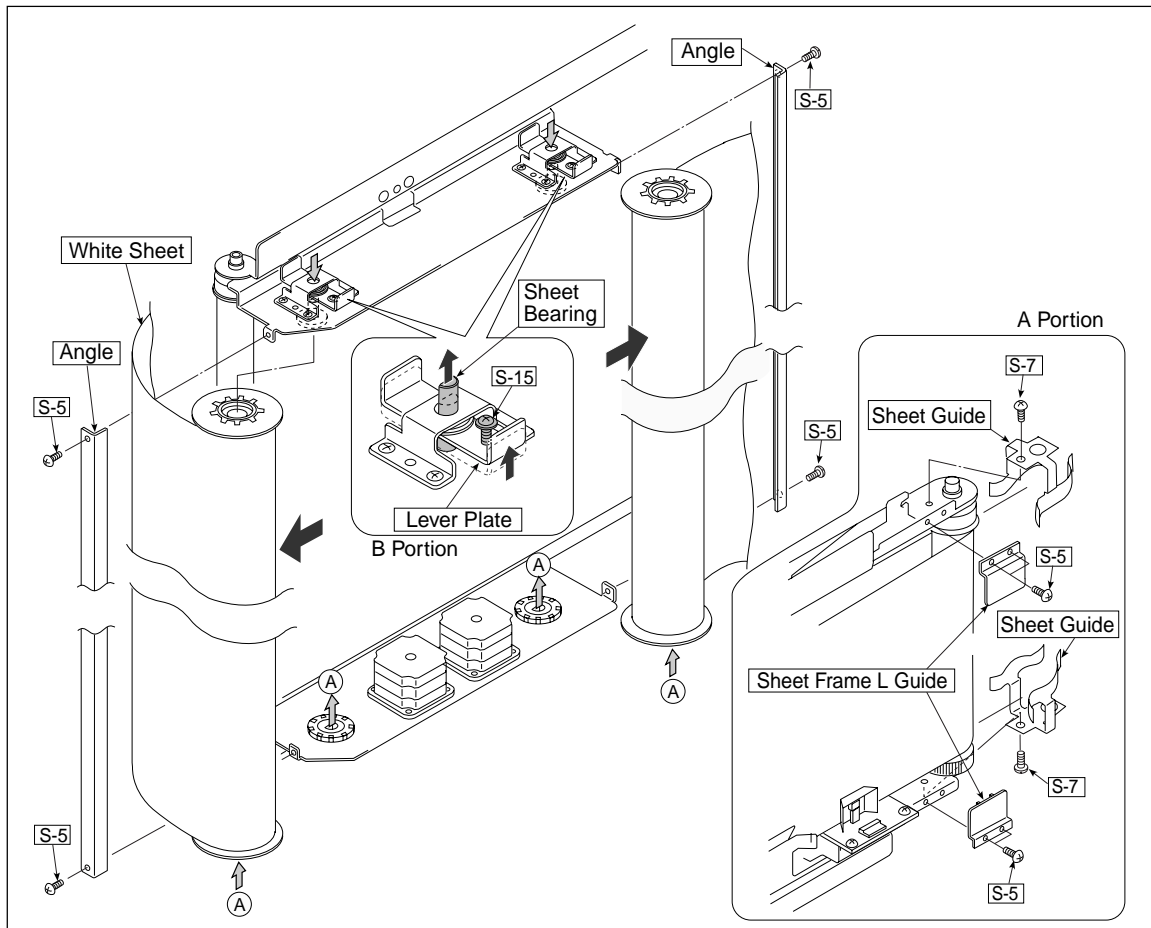

Fig. 16
12) Remove the White Sheet. (See Fig.16.)
1. As shown in portion A in the auxiliary drawing of Figure 16, remove the "S-7" screws and then remove the two Sheet Guides (at the top and bottom).
2. As shown in portion A in the auxiliary drawing of Figure 16, remove the "S-5" screws and then remove the two Sheet Frame L Guides (at the top and bottom).
3. Remove the "S-5" screws shown in Fig. 16 and then remove the Angle.
4. Loosen the "S-15" screw shown in portion B in the auxiliary drawing of Figure 16 as far as it will go.
5. As shown in portion B in the auxiliary drawing of Figure 16, loosen the Lever Plate and push the top of the Sheet Bearing upward.
6. As shown in Figure 16, remove the bottom of the White Sheet and then remove the top of it.
7. As shown in Figure 16, wind the White Sheet.